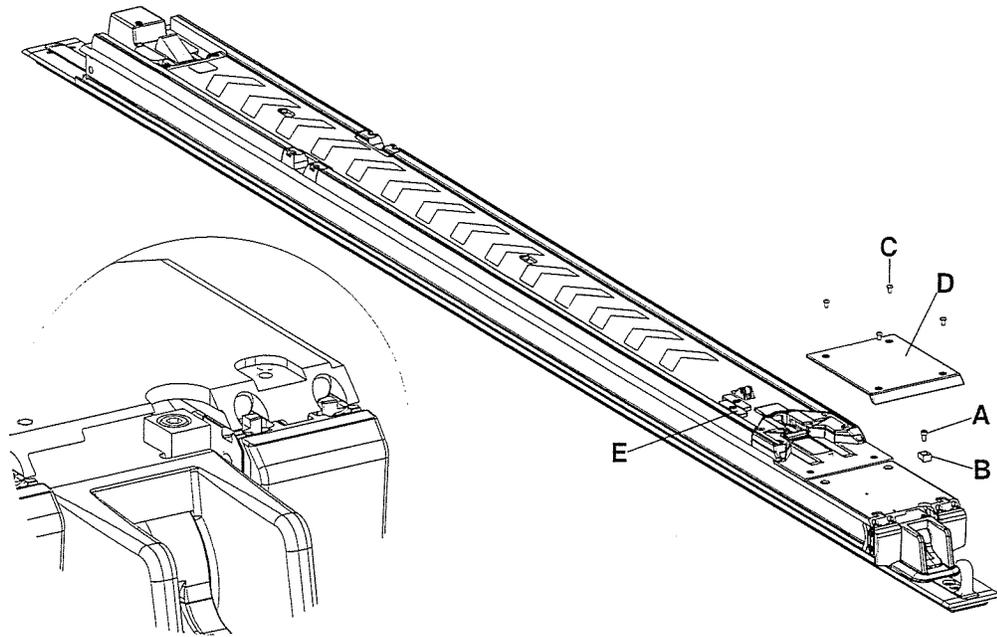

Figure 11: Attach the foot end transfer wear pad
15. Installer 1 (foot end) lifts the transfer assembly and slides the transfer lock triggers (E) (Figure 11 on page 21) toward the foot end of the transfer to release the transfer locks. Installer 2 (head end) slides and centers the open end of the transfer assembly over the rollers in the anchor assembly.
- Keep the transfer lock triggers pulled toward the foot end until the transfer is seated on the anchor (Figure 11 on page 21).
- You may notice slight resistance when you roll over the second set of rollers; push past the resistance to the position shown in Figure 11 on page 21.
16. Using a 5/32" hex wrench, install the supplied socket head cap screw (0004-658-000) (A) to secure the supplied trolley magnet activator (6390-0001-106) (B) (Figure 11 on page 21).
17. Using a T25 Torx driver, install four supplied button head cap screws (0004-665-000) (C) to attach the supplied foot end transfer wear pad (6390-001-225) (D) to the transfer assembly (Figure 11 on page 21).
18. Slide the transfer lock triggers (closest to the foot end) (E) (Figure 11 on page 21) toward the foot end of the transfer assembly to unlock.